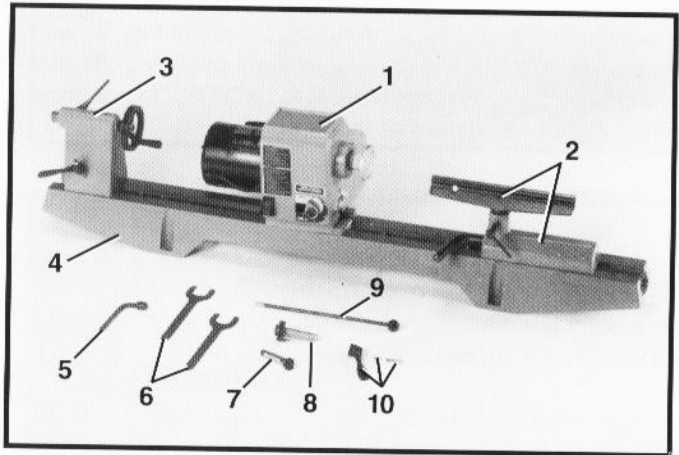

Fig. 2
1. Fig. 2, illustrates the lathe and all loose items after they are removed from the shipping container.